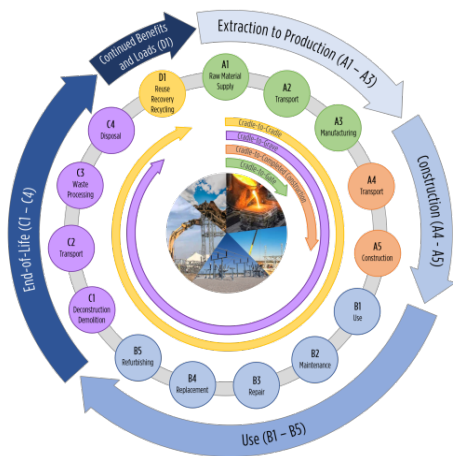

Figure 2: Lifecycle Analysis
- Embodied carbon is an important indicator that is commonly used to track and help quantify the sustainability of a project. Figure 2 shows how it is tracked for each stage throughout a project lifecycle. Embodied carbon is normally tracked in stages A1 thru A3. Although tracking embodied carbon throughout a project lifecycle provides complete information, various variables make it challenging to track this information after Stage A3.